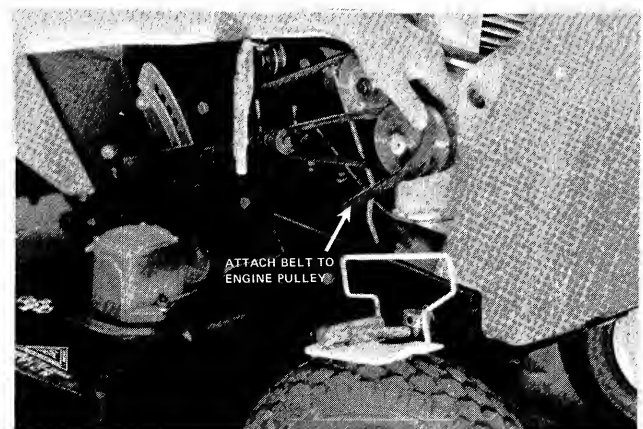

Fig. 5
8. With your left hand depress the lift lever until the center links line up with the center weld pins in the frame of the riding mower. Secure with cotter-hairpins. See Figure 5.